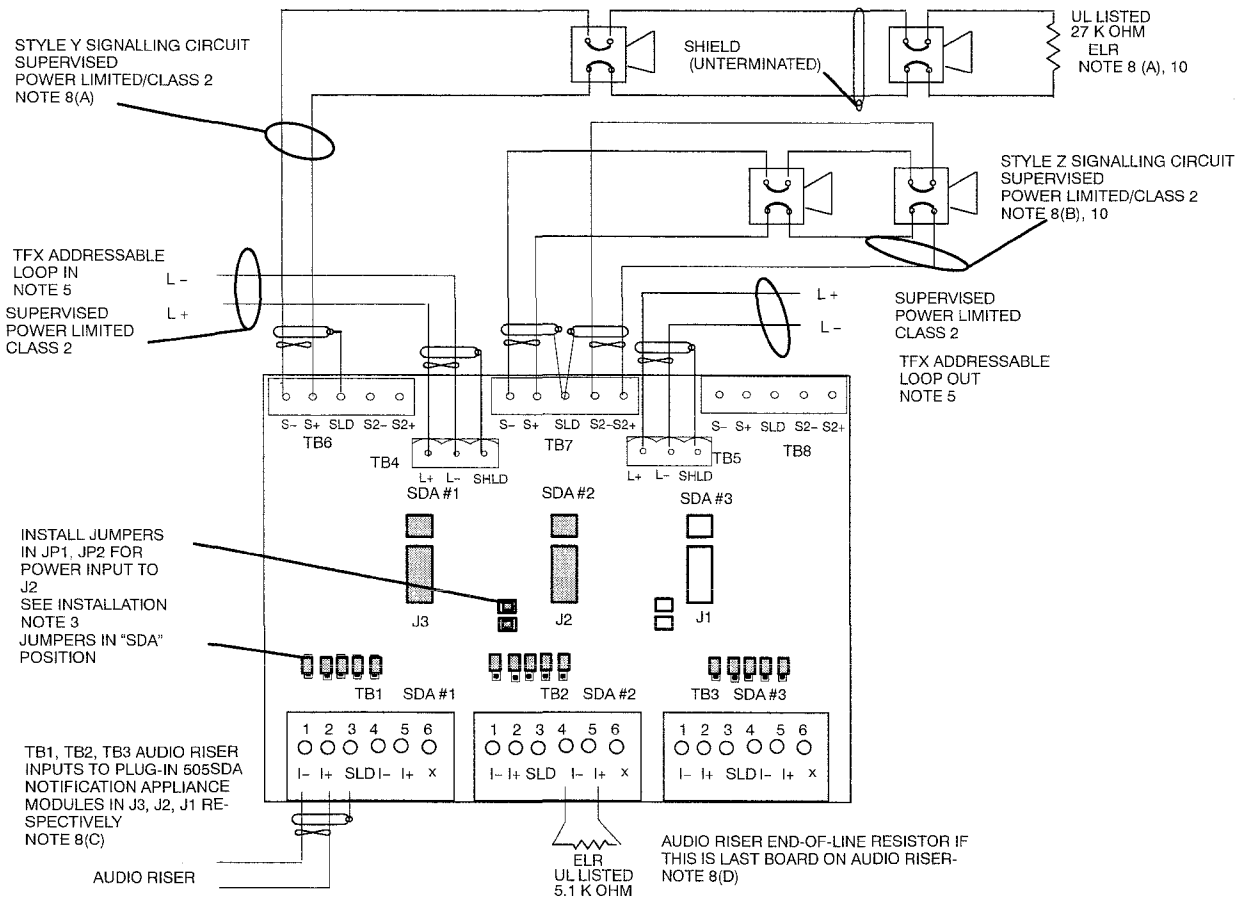

Figure 4. Typical Wiring for 505SDA Modules, Audio Application, Installed on OXM-501 RM/SDA Motherboard.
14. Wiring to 505SDA Audio Input Application signalling circuit terminals (see Figure 4):